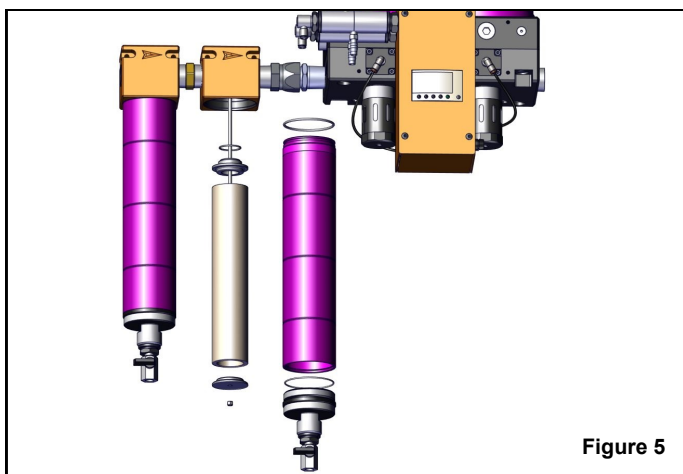

Figure 5
4. Remove bottom baffle, filter element, top adaptor, and O-ring. Figure 5